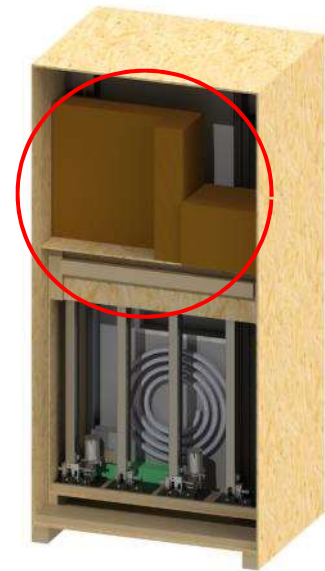

Figure 35
- 9) Remove all boxes above the jack box, place them in a safe place (Figure 35).